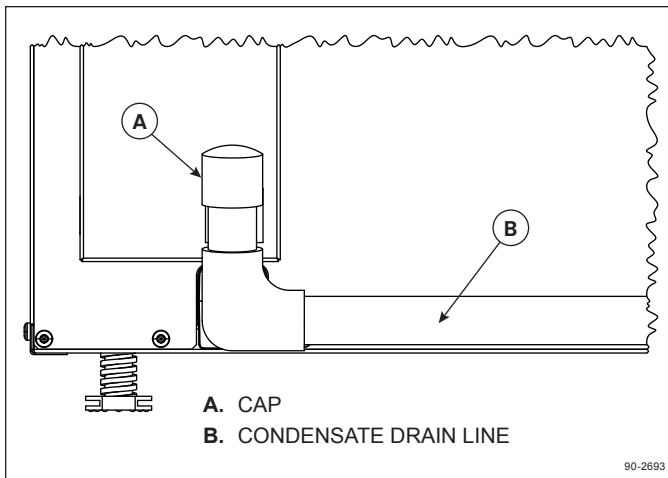

FIGURE 7: Capped Drain Access for Cleaning Process
3. If the drain has a capped tee or elbow to allow cleaner to be poured directly in the drain, remove the cap and pour approximately one cup of white vinegar into the tube (see **Figure 7**). If there is no visible access to the drain line from outside of the dehumidifier, pour approximately one cup of vinegar into the drain pan of the dehumidifier.